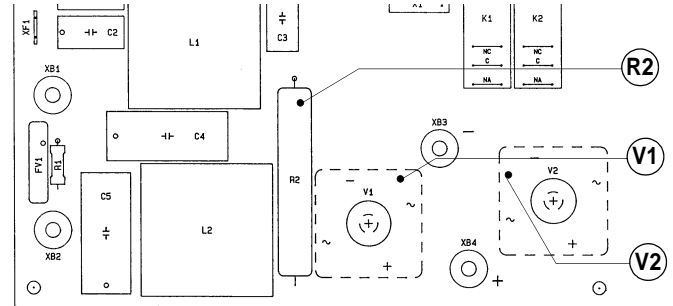

FIG. 3 - C.E. RIF. 3 MOD. HF348
1. Check for the presence of short circuits on the rectifier bridge and the correct value of the power resistance (fig. 3)